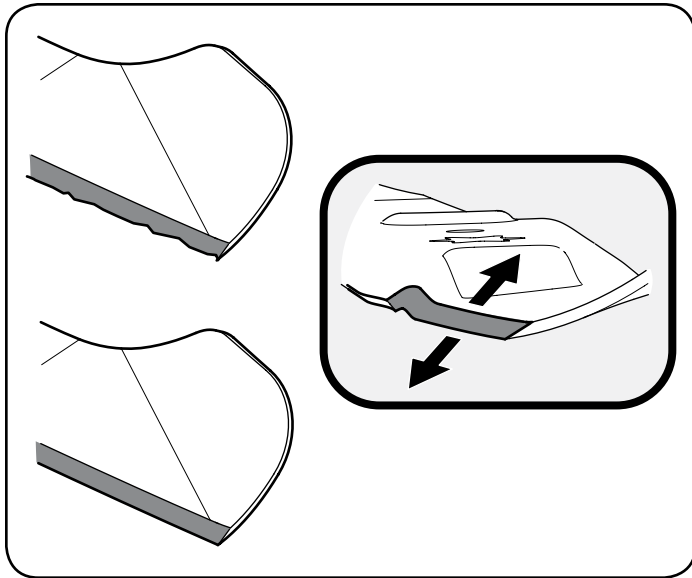

Figure 33
- To properly sharpen the cutting blades, remove equal amounts of metal from both ends of the blades along the cutting edges, parallel to the trailing edge, at a 25°- to 30° angle. Always grind each cutting blade edge equally to maintain proper blade balance. See Figure 33.